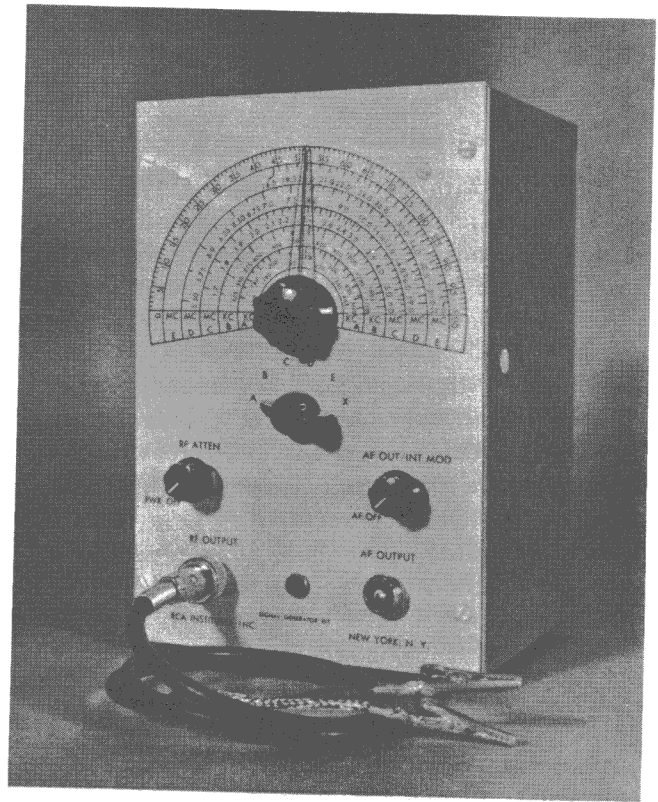

Fig. 21-18
Step 3. Mount the two control knobs with the indicators at the off positions. Tighten the set screws. Mount the bandswitch knob and tighten the set screw with the pointer in the Band A position. Put the plastic pointer on the tuning capacitor shaft, and tighten the set screw with the pointer lined up with the horizontal line on the left side of the scale. Tighten the set screw securely; be careful not to split the screw-head apart. Mount and tighten the tuning knob on the tuning capacitor shaft. Your front panel should appear as in Fig. 21-18.